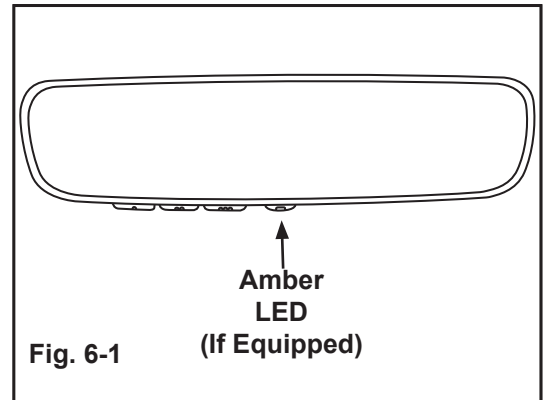

Fig. 6-1
- a) To make sure the auto-dimming feature is on, verify that the power button, located the center button is illuminated. If it is not on, push the "⏻" button to turn the amber LED on. (Fig. 6-1)